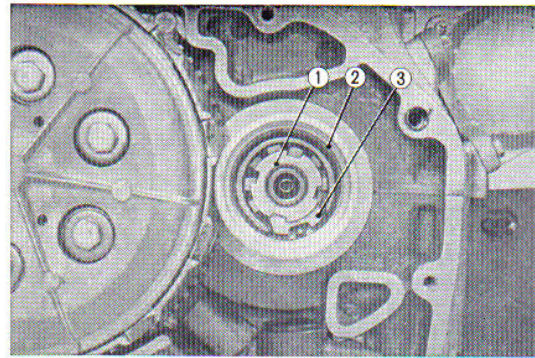

Fig. 3.78 Assembling the oil filter rotor
2. Make sure that the 16 mm mounting nut is properly torqued and locked to prevent loosening. (Fig. 3.78)